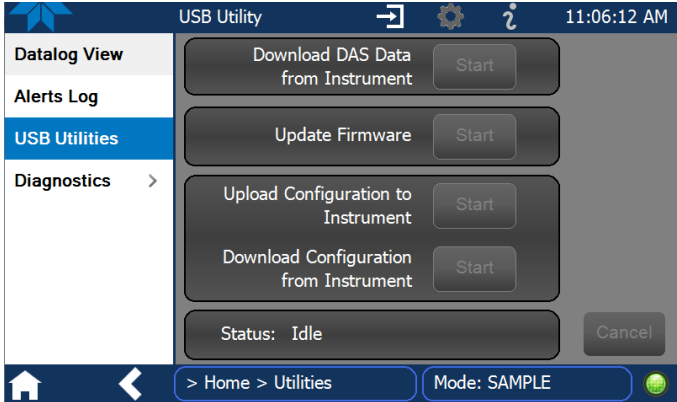

Figure 2-41. USB Utility Page
8. Press USB Utilities menu to open the utility page (Figure 2-41).